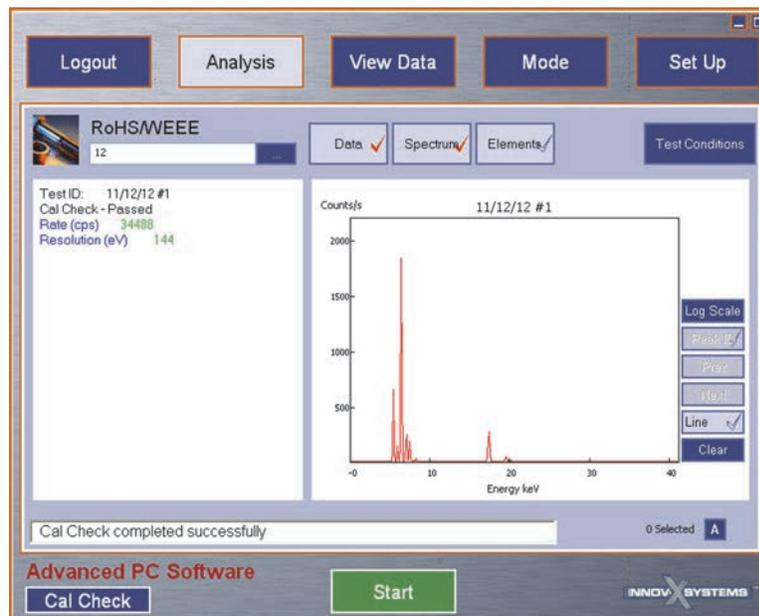

Figure 7-3 The test and test-in-progress screens
A Cal Check takes approximately 15 seconds to complete. The **View Data** window displays the status of the test (see Figure 7-3 on page 98).
1. Navigate to the **Analysis** window (see Figure 7-3 on page 98).